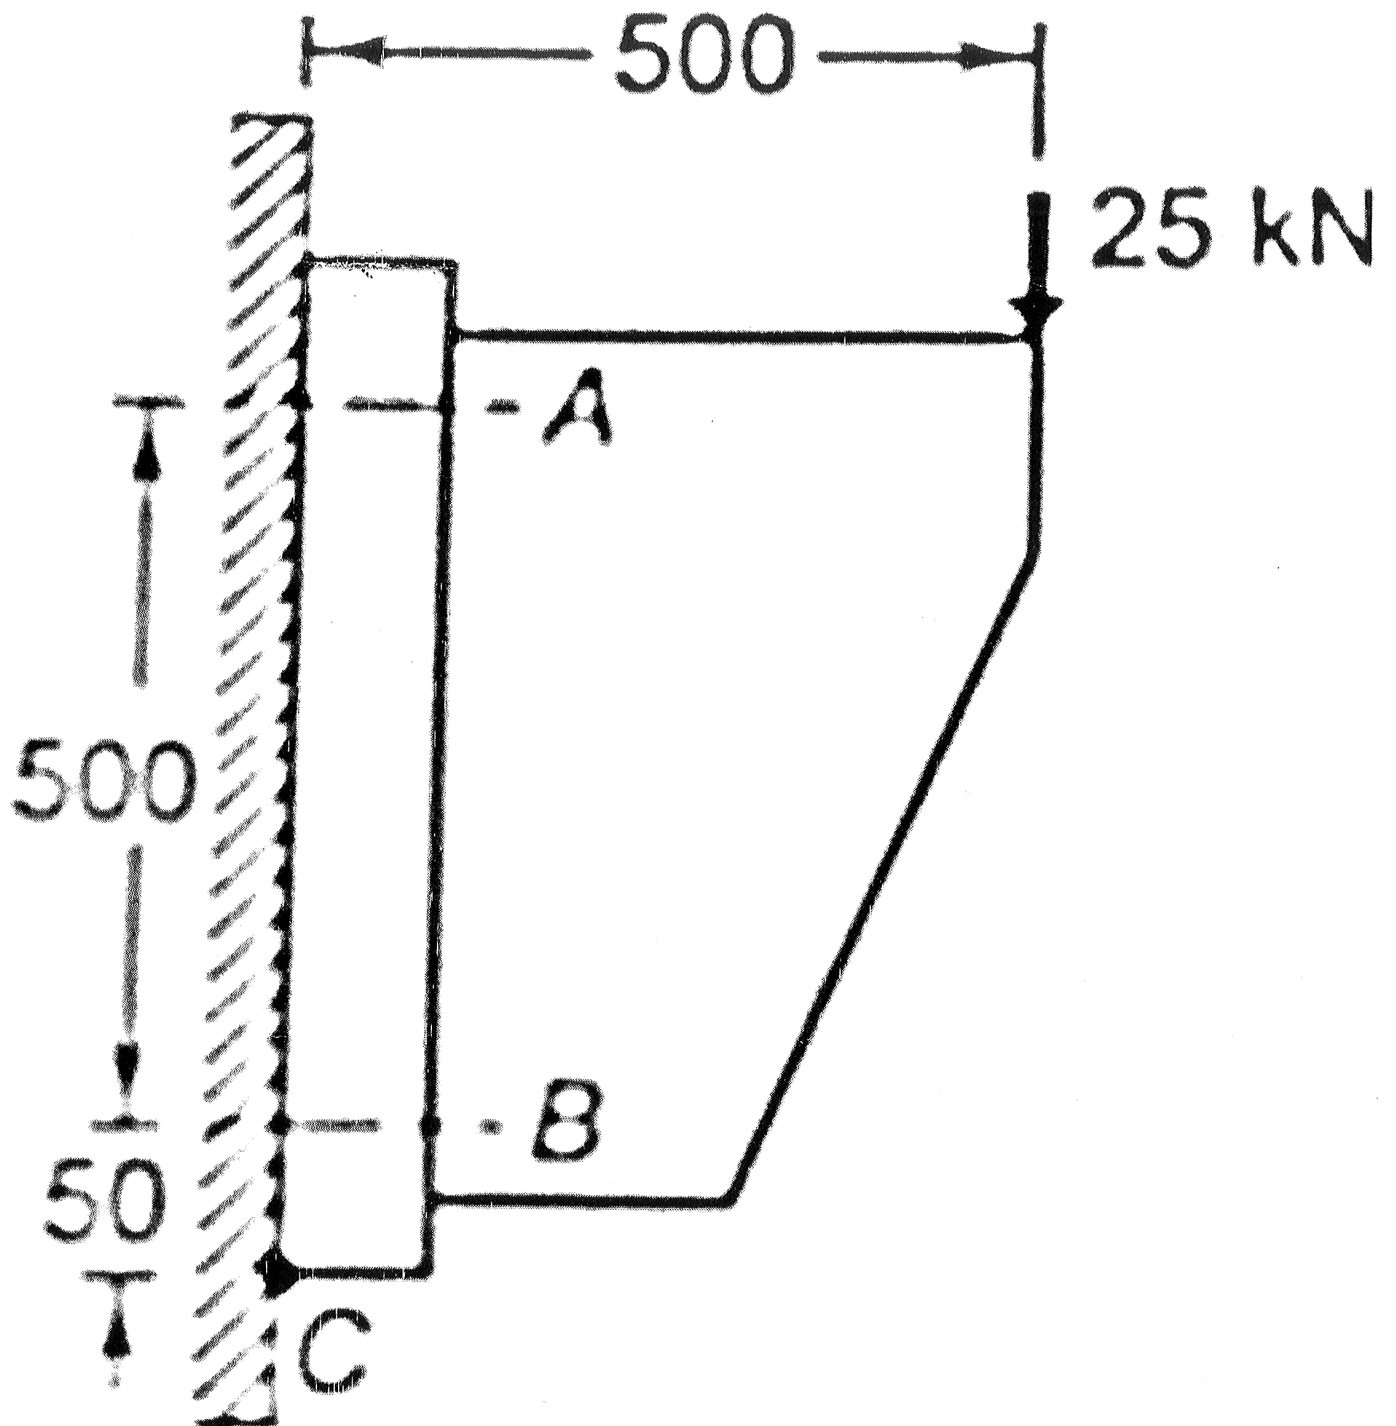

Fig. 2
3. A wall bracket is attached to the wall by means of four identical bolts, two at A and two at B, as shown in Fig.2. Assuming that the bracket is held against the wall and prevented from pitting about point C by all four bolts and using an allowable tensile stress in the bolts as 35 N/mm^2 , determine the size of the bolts on the basis of maximum principal stress theory. (20)